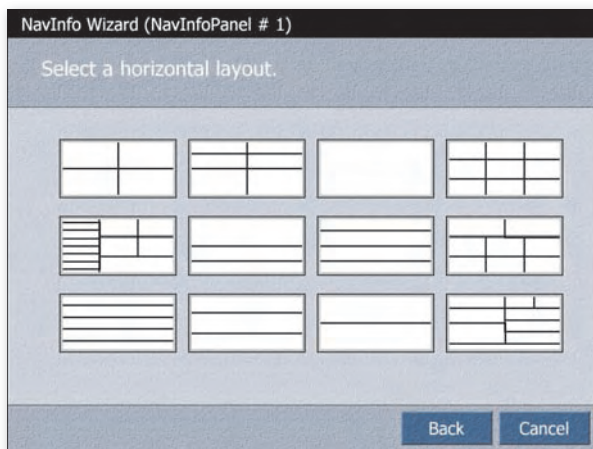

Figure 18.12 - NavInfo Wizard - Select a Layout
4. Select the layout configuration to assign to the window pane. When you select the layout, the NavInfo Wizard closes and the panel automatically updates. See **Figure 18.12**.